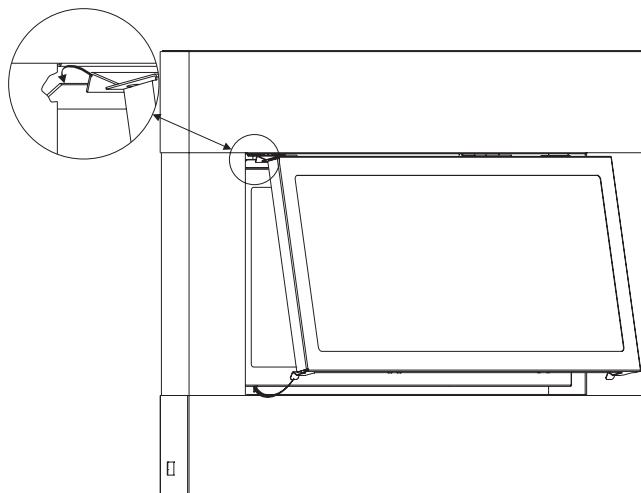

Figure 52
After the Glass Door and Surround assemblies have been installed, attach the Barrier Screen onto the Glass Door frame by hooking the top flange of the barrier over the top of the Glass Door frame, then snap the bottom extended friction tabs under the Glass Door frame to secure. Adjustments to the bottom tabs may be required to maintain a light snap-on action. **See Figure 52.**
- Check the barrier screen for fit and structural integrity. **See Figure 52.**